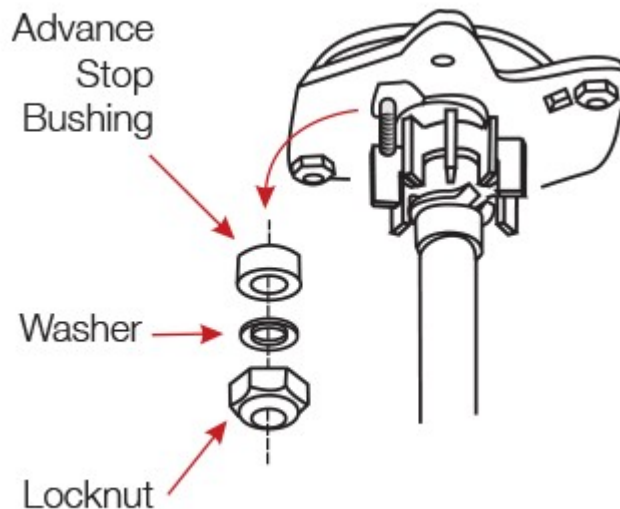

Figure 4
- 3). Remove the lock nut and washer on the bottom of the advance assembly to change the bushing(Figure 4)